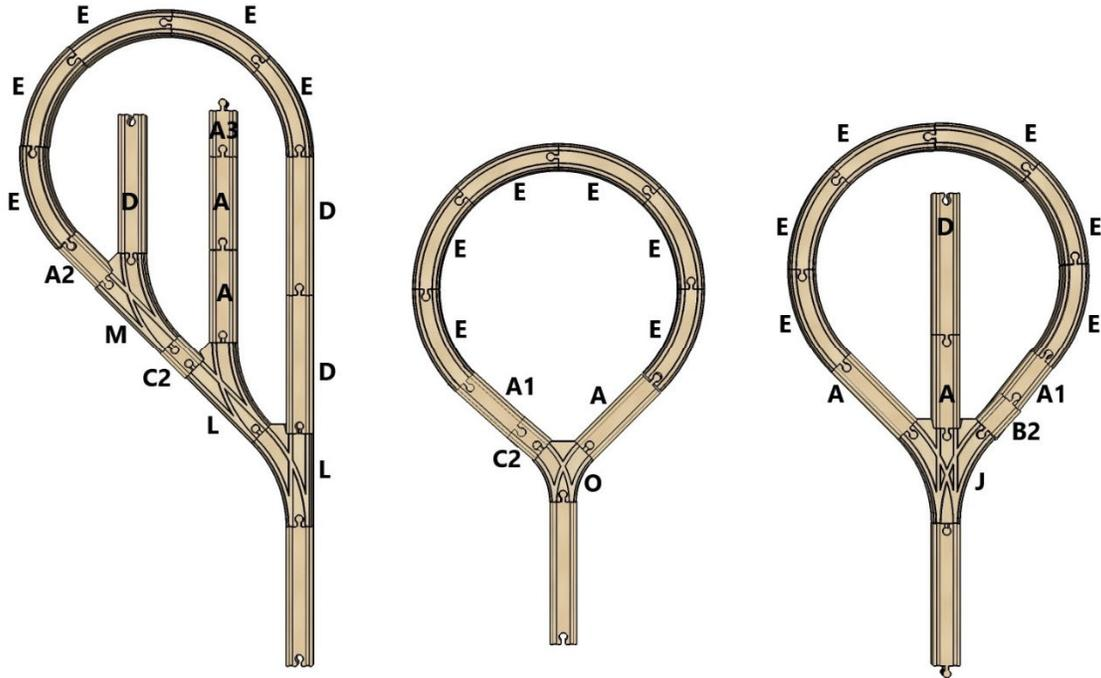

Figure 7: “Balloon Track” Terminal Designs
- Each end of the mainline requires a “balloon track” terminal with optional stub tracks. A single balloon track with two stub tracks (as shown in Figure 7) requires the following track sections:
- 2 x A1 (optional, depending on Terminal design selected from Figure 7)